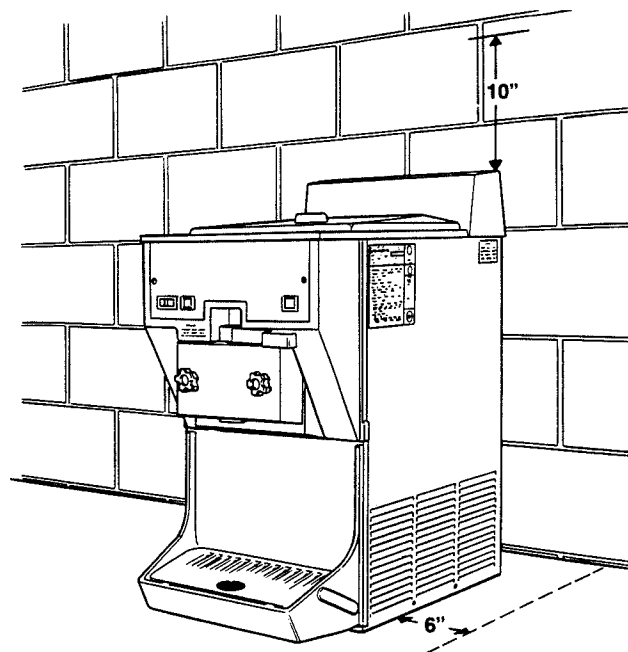

Figure 4. Space and Ventilation Requirements
Air cooled requires minimum 6" (15.2 cm) air clearance on right hand side and 10" (25.4 cm) air clearance above unit. No clearance needed left side and rear. (See Fig. 4.)
- C. The freezer is equipped with an air cooled condenser and requires correct ventilation. The right side of the freezer is the air intake and **must** have 6" (15.2 cm) clearance. Air discharges out the top at the rear of the unit. **Do not** obstruct the discharge. Allow a 10" (25.4 cm) clearance above the unit (Fig. 4).